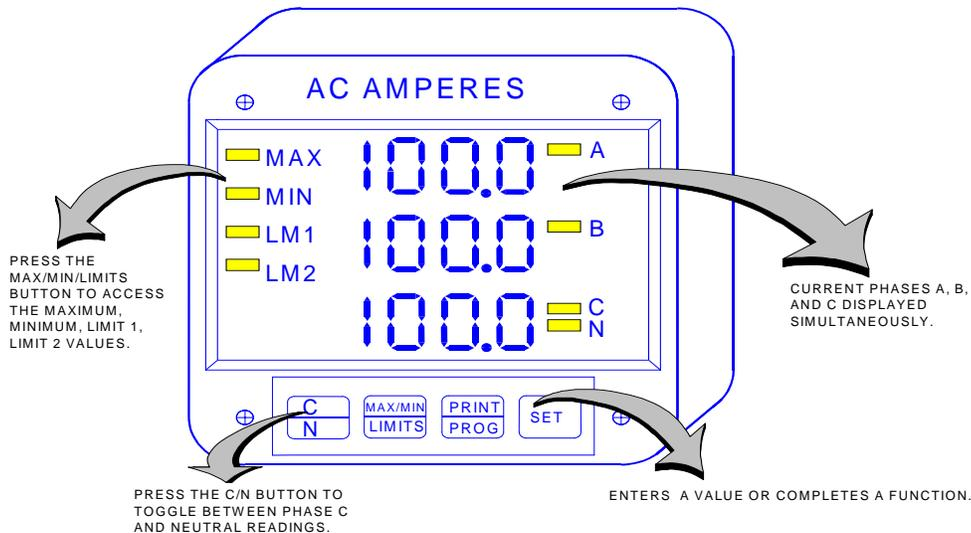
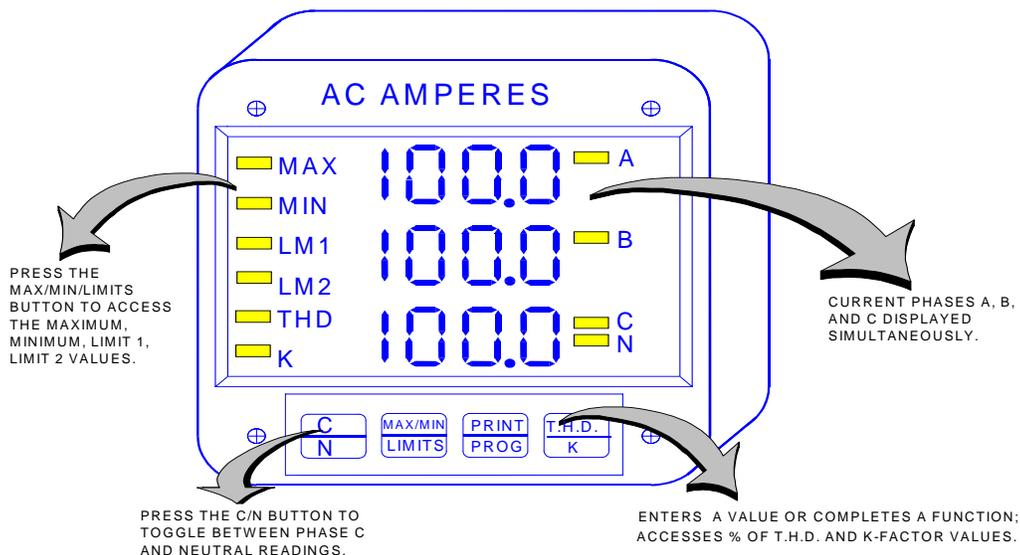

Figure 1-1: The 3DAA5 front panel with display and keypad
Figure 1-2: The 3DAA5-H front panel with display and keypad
- Both the **3DAA5** (Figure 1.1, below) and the **3DAA5-H** (Figure 1.2, below) display three phases of current simultaneously and adjust to any CT ratio. Both easily access and display maximum and minimum demand and programmable limits (LM1, LM2).